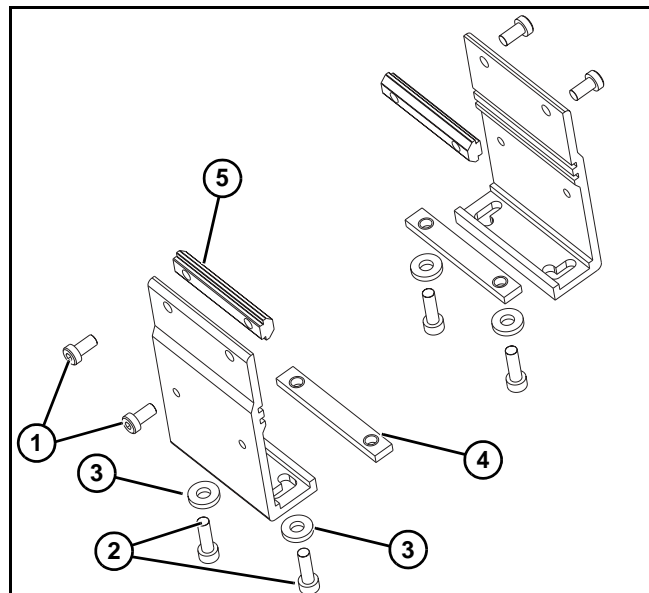
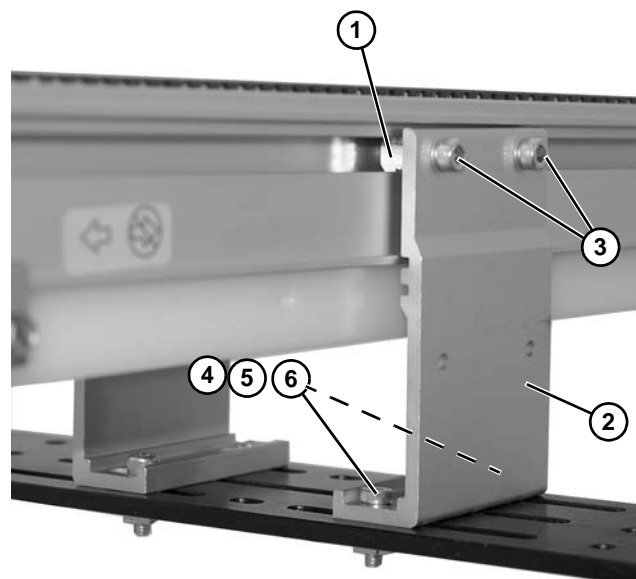

Figure 7
Figure 8
1. Locate brackets. Exploded view shown in **Figure 7**.
2. Remove screws (**Figure 7, item 1 & 2**), washers (**Figure 7, item 3**), connector bars (**Figure 7, item 4**) and T-bars (**Figure 7, item 5**) from brackets.
3. Insert T-bars (**Figure 7, item 5**) into conveyor side slots (**Figure 8, item 1**). Fasten brackets (**Figure 8, item 2**) to conveyor with mounting screws (**Figure 8, item 3**).
4. Fasten brackets to support stand with mounting screws (**Figure 8, item 4**), washers (**Figure 8, item 5**) and nuts (**Figure 8, item 6**).
5. Tighten screws (**Figure 8, item 3 & 4**) to 60 in-lb (7 Nm).